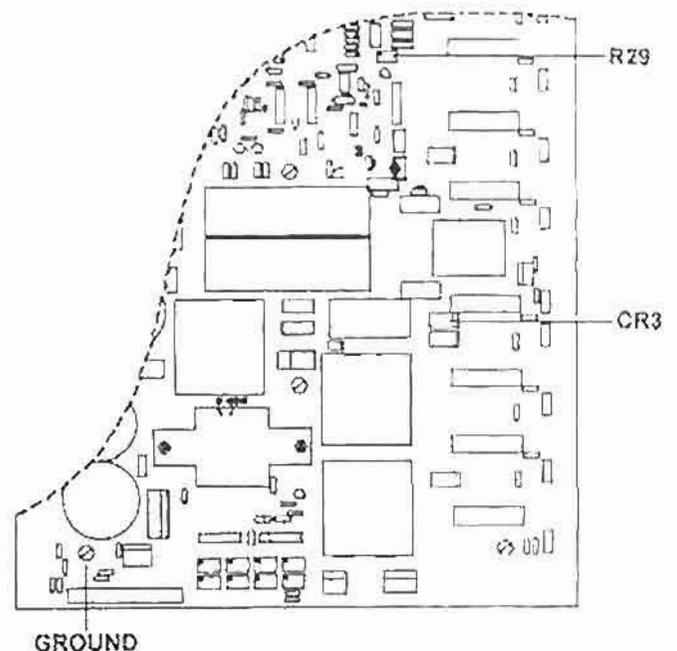

Figure 3-44. High voltage clamp adjustment.
(5) Set the "COAG POWER" to 30 watts by depressing the up (Δ) keyboard switch until 30 shows in the right-hand digital display.
(6) Depress the "COAG" pedal on the monopolar footswitch.
(7) Observe the wattmeter which should be 30 ± 5 watts. Release the "COAG" pedal.
(8) Set the "COAG POWER" to 1 watt by depressing the down (∇) keyboard switch until 1 shows in the right-hand digital display.
(9) Connect an oscilloscope with a 100X probe between the anode of diode CR3 and electrical ground on the PSRF PCB (fig 3-44).
(10) Depress the "COAG" pedal momentarily on the monopolar footswitch until you observe the peak positive voltage.
(11) Slowly increase the "COAG POWER" by depressing the up (Δ) keyboard switch, depress the "COAG" pedal momentarily, and repeat the steps until you observe the peak positive voltage.
(12) Adjust resistor R29 on the PSRF PCB so that the maximum peak voltage is +400 volts.